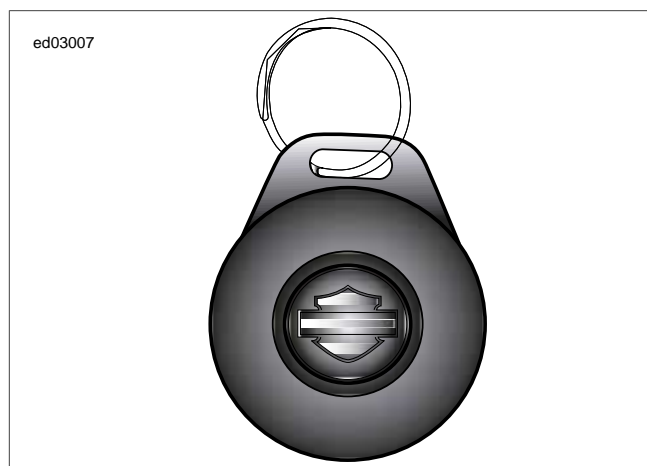

Figure E-2. Key Fob: TSSM
- **Remote arming/disarming:** See Figure E-2. Owners may enable and disable security alarm and immobilization functions with a personally carried transmitter. This transmitter is referred to as a **key fob**. Remote arming/disarming is a function of the TSSM (Japan/Korea) only.